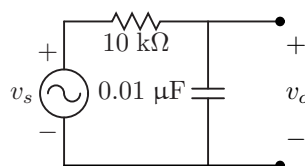

Figure 2: RC circuit to build
5. Construct the RC circuit in Figure 2.